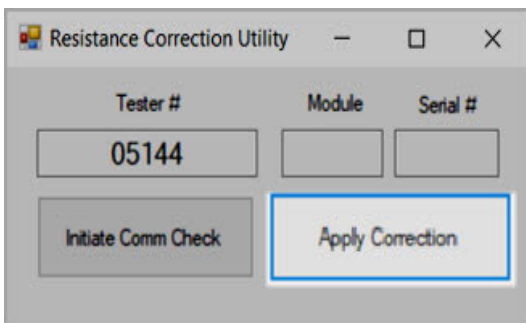

Figure 5
11. Click the Apply Correction button to apply the calibration correction. Shown in Figure 5.